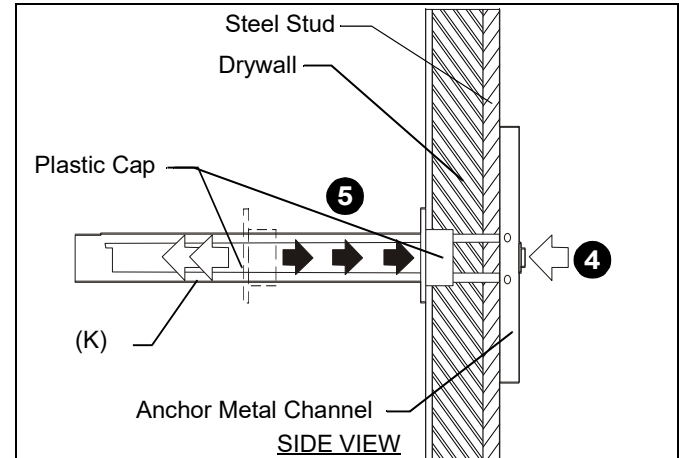

Figure 15
4. Holding plastic straps on anchor (K), pull anchor away from wall until channel rests flush behind wall making sure anchor channel is positioned vertically on stud. (See Figure 15)
5. Slide plastic cap on anchor (K) towards wall until flange of cap is flush with wall. (See Figure 15)